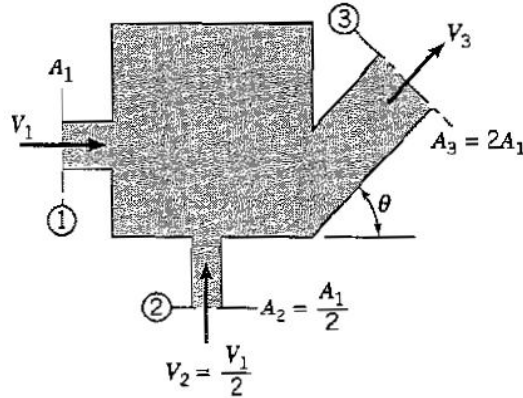

Figure P3.12
3.12 For the vessel shown in Figure P3.12, the flow is steady, with constant density, and it may be assumed to be one-dimensional over the entry and exit planes. Neglect forces due to gravity, and assume the pressure outside the box is atmospheric. Find the mass flow rate and the volume flow rate out of area A_3 , and find the x - and y -components of the force exerted on the box by the fluid, in terms of ρ , A_1 , θ and V_1 .